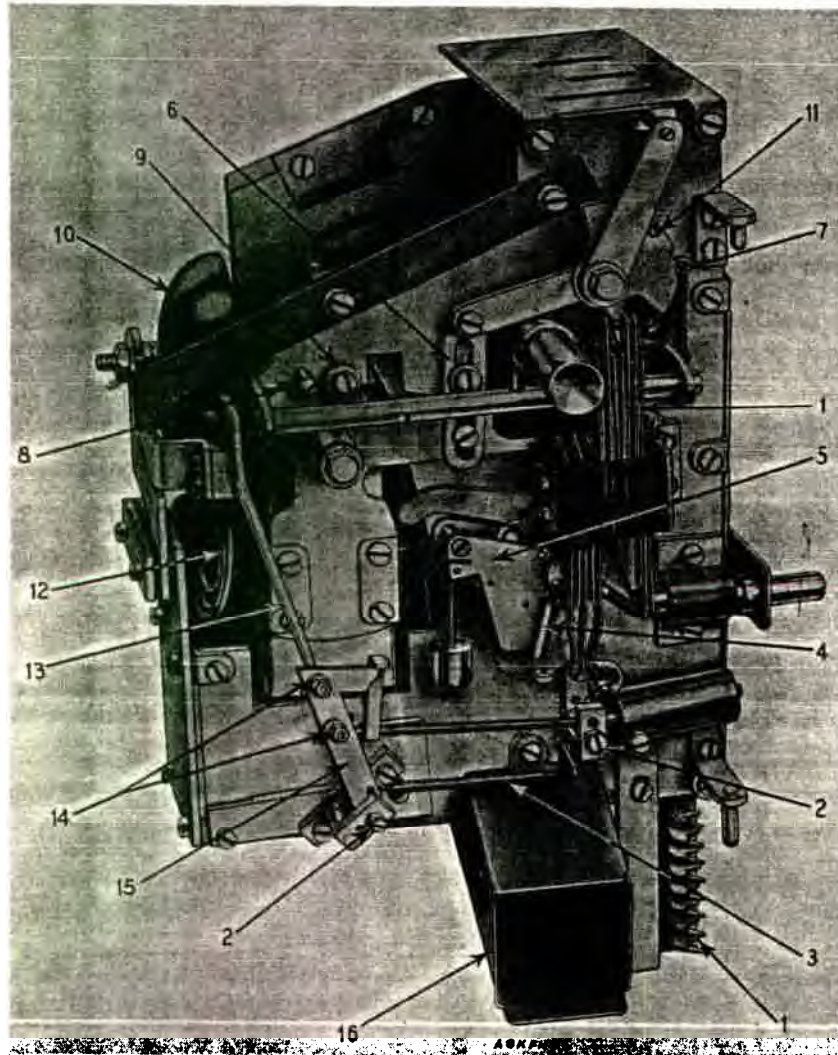

FIG. 1
2. Identification of parts.—Fig. 1 shows a typical mechanism of this type, the replaceable parts being indicated by item numbers. Table 1 lists these parts giving their description and code for requisition purposes.